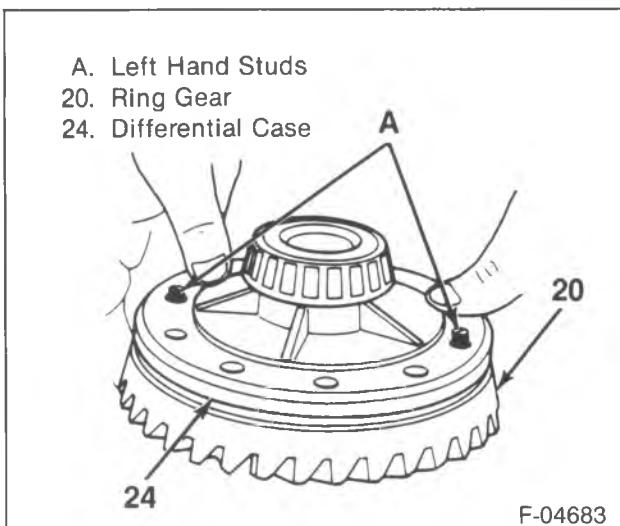

Figure 18—Ring Gear Studs
- Side gear thrust washers (32) to the side gears (33).
- Pinion gears (31) to the differential without the thrust washers (30).
- Pinion thrust washers (30).
- Ring gear (15) to the differential case (27).
- Place the ring gear onto the case, and align the holes in the case with the studs (figure 18).